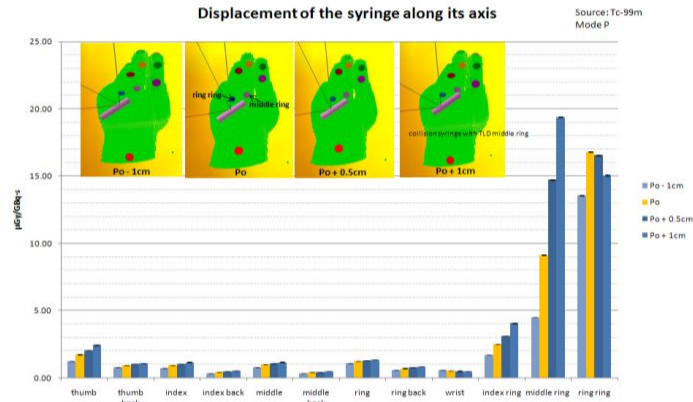

Figure 1: Example of scenario I2N. Test 1, source Tc99m.
- Do one histogram for each radionuclide. Include the error bars and the figures that show the initial position ( $P_0$ ) and the other different positions. See example of Tc-99m in Figure 1